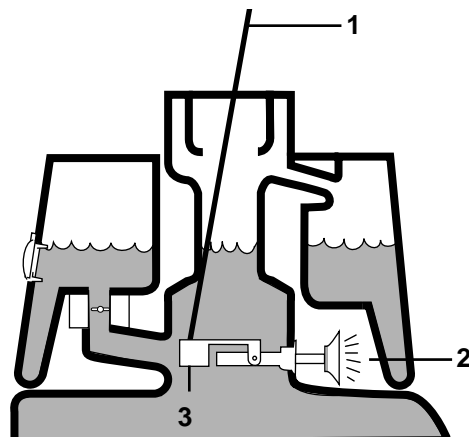

Figure 13
2. Either place a strip of white tape or paint a line onto each basket paralleling the outer edge of each basket (Fig. 13).
3. Overlap a minimal amount with the previous cut on return passes. To maintain a straight line across the green and keep the machine an equal distance from the edge of the previous cut, establish an imaginary sight line 2 to 3 meters ahead of the machine to the edge of the uncut portion of the green (Fig. 13 & 14). Some people find it useful to include the outer edge of the steering wheel as part of the sight line; i.e., keep the steering wheel edge aligned with a point that is always kept the same distance away from the front of the machine (Fig. 13 & 14).